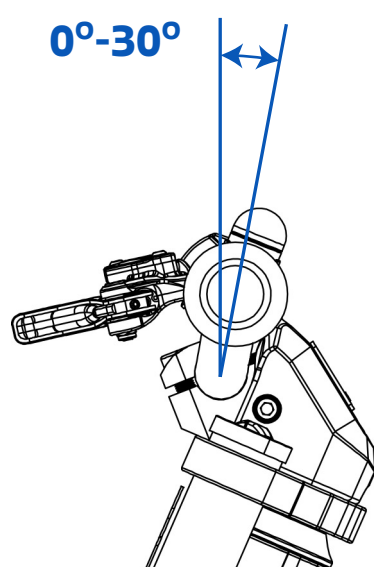

Fig. 5
9. Next, the handlebar must be adjusted to the specific angle between  $0^{\circ}$  and  $30^{\circ}$  (Fig. 5), with which the rider feels comfortable. Always in contact with the upper plate. And secure it with the same four M6 Allen screws (Fig. 5) above, with a torque of 1 Kgf.m.